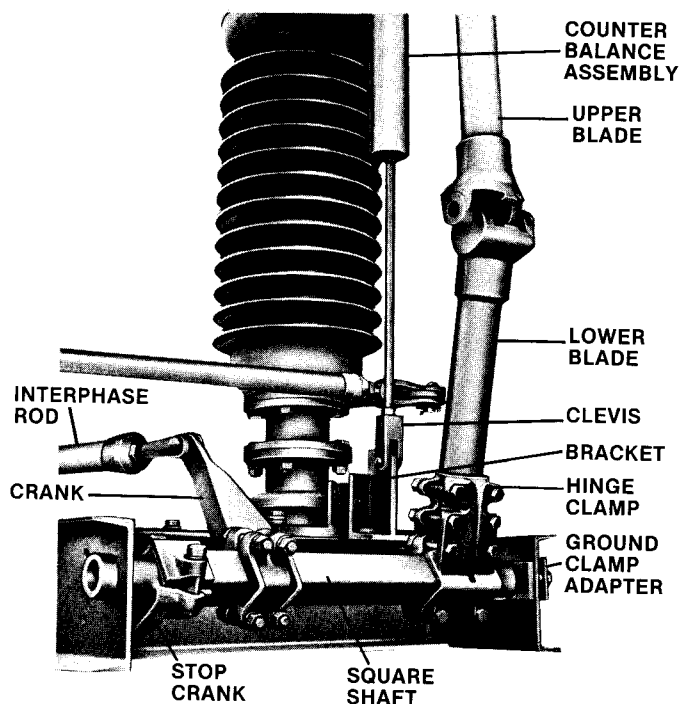
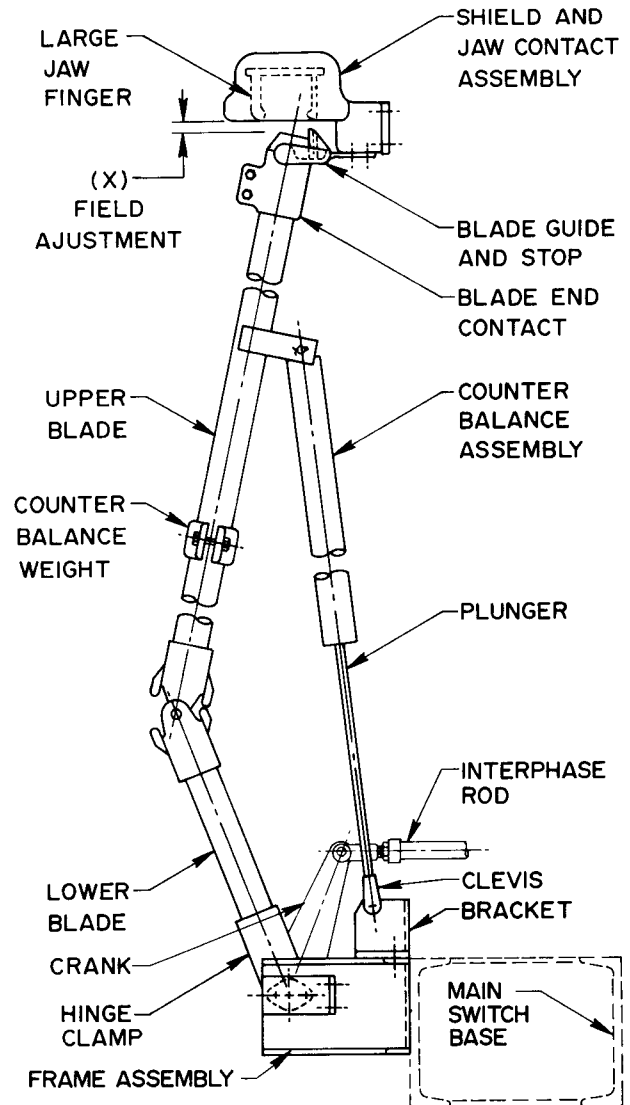
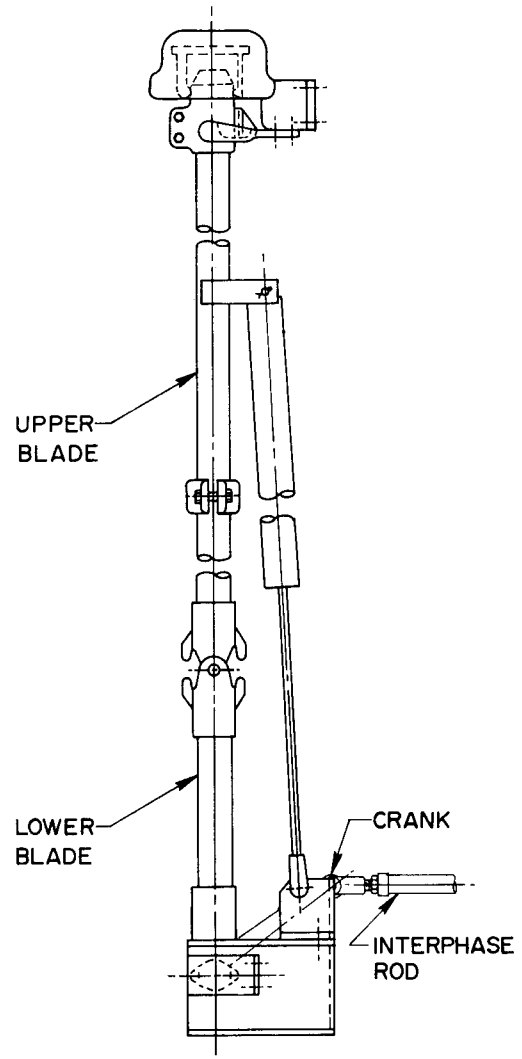
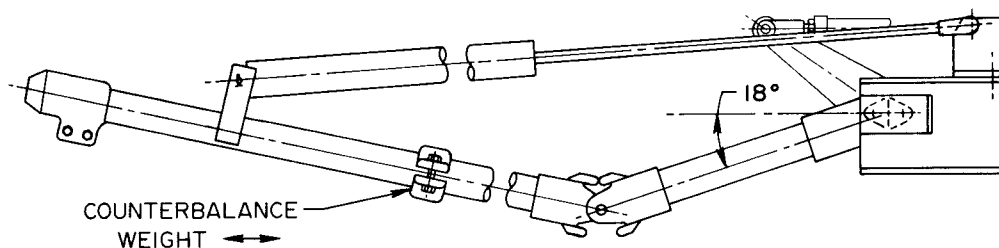

Fig. 1 Frame assembly and other components
Fig. 3 Switch in partially closed position
Fig. 7 Switch in fully closed position
Fig. 6 Switch in fully open position
Prepare the lower part of the grounding switch blade and inside of hinge clamp, as described in the Terminal Connections section. Insert the grounding switch blade into the hinge clamp and finger tighten the bolts, see Fig. 1.
With the blade in the position shown in Fig. 6, install the counterbalance assembly by first attaching the end opposite the plunger to the upper blade. Then complete the installation by attaching the clevis end of the plunger to the bracket at the frame assembly, see Figs. 1 and 2.
Move the grounding switch blade to the position shown in Fig. 3 making sure that the blade end contact makes central entry into the blade guide and stop. If it doesn't, twist the blade the proper direction to make it do so, then tighten the bolts in the hinge clamp at the frame assembly, again see Fig. 1.
Move the grounding switch blade toward the closed position so that the blade end contact passes under the jaw contact assembly, as shown in Fig. 3. Check that the dimension (X) between the top of the blade end contact and the bottom of the nearest jaw finger is as shown on the drawings. If it is not, loosen the bolts on the blade end contact and move the blade end contact to achieve the proper dimension.
The stops at the frame assembly on each switch should then be set at the required position to permit complete opening and closing of the grounding switch blade. The blade is normally considered fully open when its lower segment makes an angle of 18 degrees with the horizontal, see Fig. 6. It is recommended that in the fully closed position, the stop be set such that the upper blade and lower blade are either in line or toggled over center up to a maximum of 3/4", refer to Fig. 7.
With the other two poles in the open position, connect one interphase rod between the operating single-pole switch and the switch on the next phase. Fig. 1 shows an interphase rod connected to a switch crank. Operating manually only, adjust the interphase rod as needed to obtain proper operation of both poles. Rods in compression should be made as long as possible and rods in tension should be made as short as possible while still being able to insert the pins. Connect the remaining interphase rod between the switch not connected and the adjacent switch. Again operating manually, adjust the interphase rod as needed to obtain proper operation of the three switches. Figs. 6 and 7 show the grounding switch in the fully open and fully closed positions.